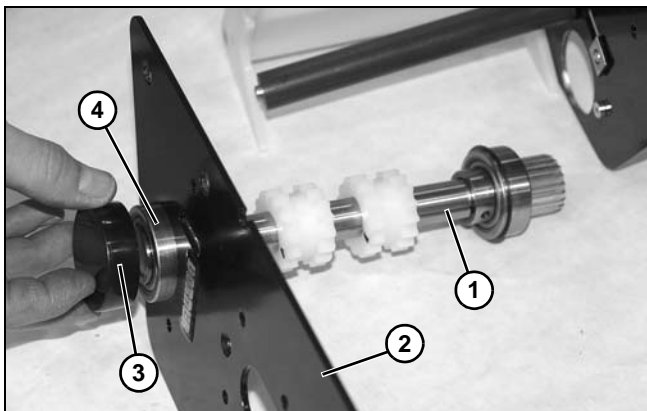

Figure 134
1. Install driveshaft assembly (**Figure 134, item 1**) onto side plate (**Figure 134, item 3**).
2. Install cap (**Figure 134, item 3**) onto driveshaft bearing assembly (**Figure 134, item 4**).